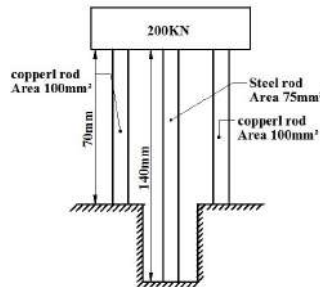

Figure 5
23. Two copper rods and one steel rod together support a load of 200KN as shown in **Figure 5**. Find the stress in the rod Take $E_s=2 \times 10^5\text{ N/mm}^2$ and $E_c=1 \times 10^5\text{N/mm}^2$.